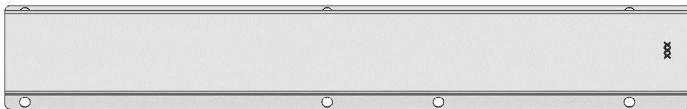
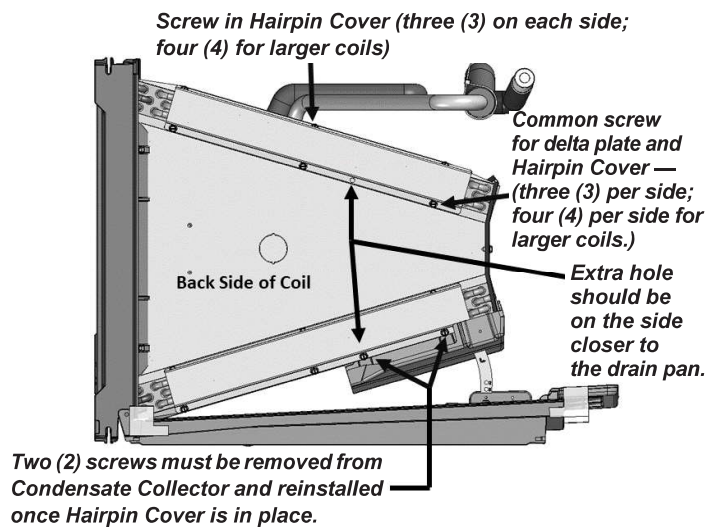

Figure 1 - Hairpin Cover
Figure 2 - Hairpin Cover on Coil
- Both Hairpin Covers (see Figure 1) are to be assembled to the back of the coil only as shown in Figure 2.